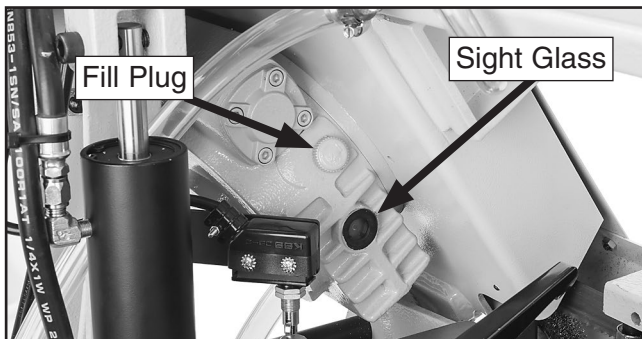

Figure 51. Gearbox fill plug and sight glass.
4. Remove fill plug shown in **Figure 51**.